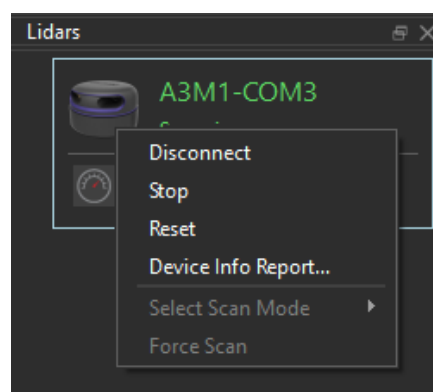

Figure 2.12.10 Context Menu in Scan Mode
2. As shown in Figure 2.12.10, right click the lidar in the **Lidars** panel and choose **Stop** in the context menu.
As shown in Figure 2.12.10, right click a lidar in the **Lidars** panel and choose **Disconnect** in the context menu to disconnect from the lidar.